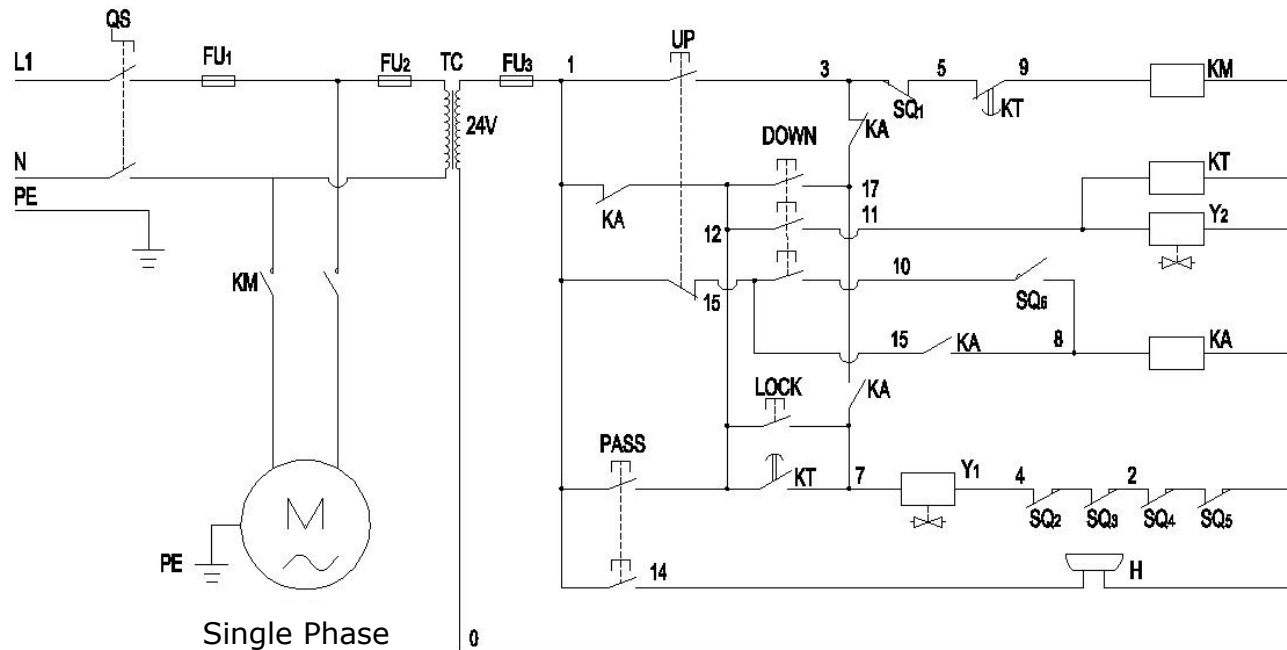

Fig. 49
6.3、220V Wire connection and circuit diagram. Fig.49